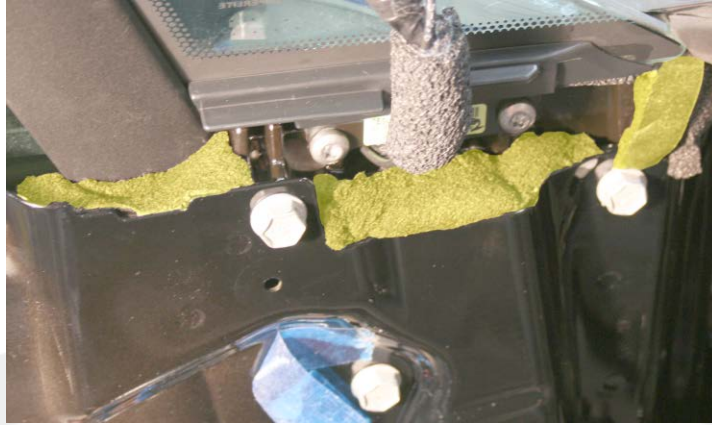

Figure 5 (Foam pieces highlighted)
3. If equipped, remove any foam stuffed in the gaps below the fixed glass (Figure 5).